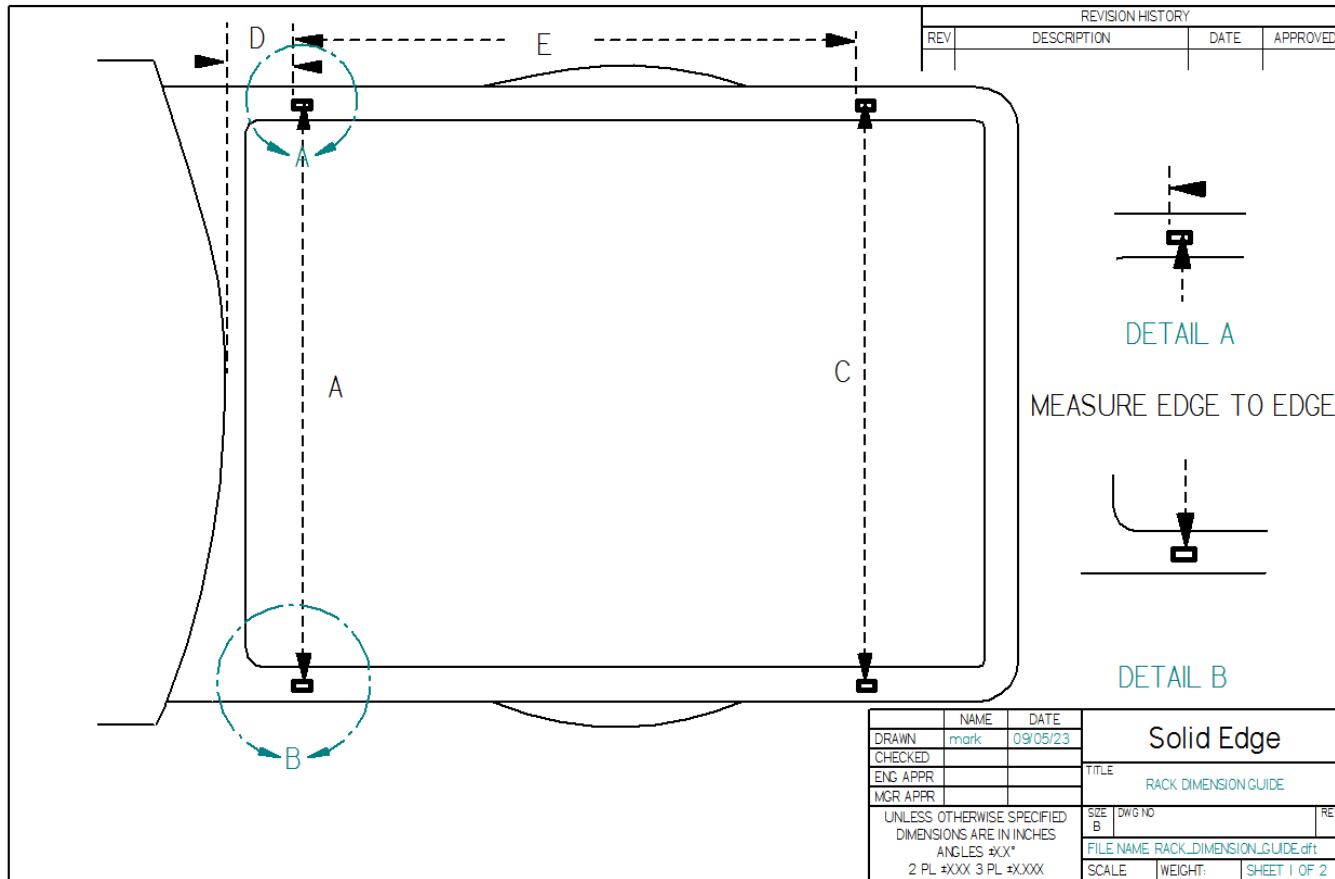

FIG 1
2. MEASURE DIMENSIONS A, C, D, E, H. MESURE EDGE TO EDGE (SEE DETAILS A AND B IN FIG 1)